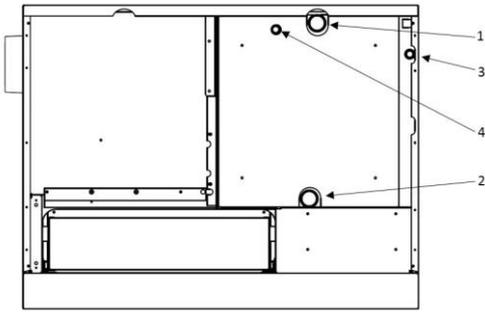
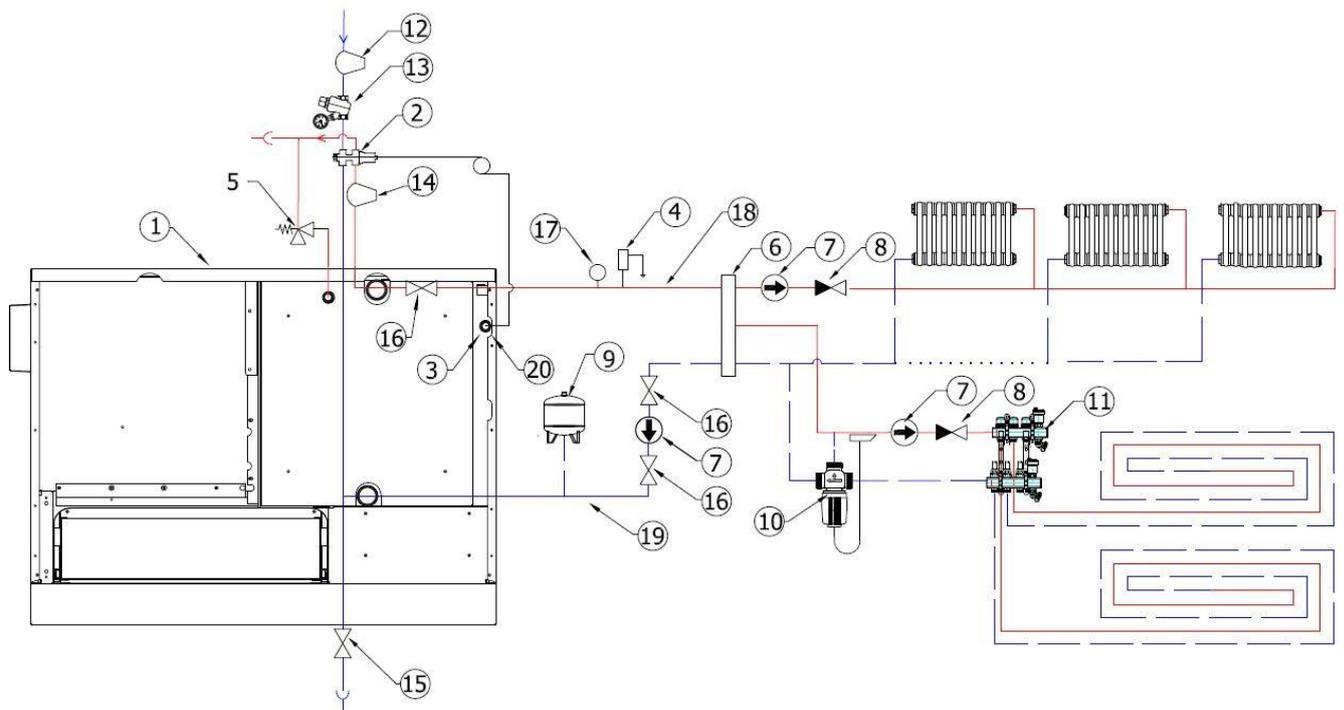
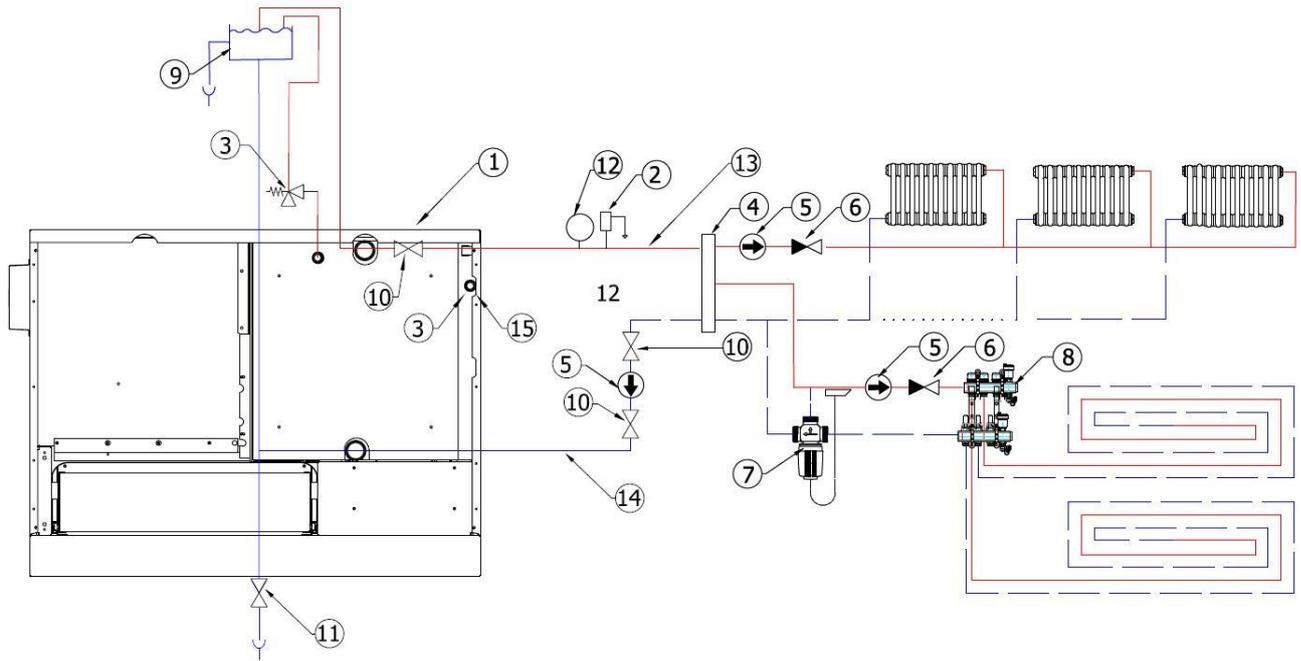

Figure 5
Figure 7
Figure 8
The stove can be installed in closed or open heating circuit. Conform to the standards: JUS M.E7.201 and JUS M.E7.202. Closed and open circuit diagrams are shown on Fig. 7 and Fig. 8.
The back of the boiler and connections are shown in Fig. 5 where:
6.1 FLOW PIPE AND RETURN PIPE (Fig. 5, pos. 1 and 2 and Fig. 7, pos. 18 and 19, Fig. 8, pos. 13 and 14)
1. Thermal release valve with built-in thermal protection type 544, 1/2", Caleffi product (Fig. 7a) and Fig. 7, pos. 2.
2. Slope pressure regulator 1/2" with manometer, the same or similar as shown in Fig. 7b and Fig. 7, pos. 13.
3. Filter for cold water at the input of the water supply to the thermal valve, Fig. 7, pos. 12.
4. Filter for hot water intake of the boiler and water outlet of thermal valve, Fig. 7, pos. 14.
Installation of thermal release valve with built-in thermal protection (Fig. 7, pos. 2 and Fig. 7a) with additional elements ensuring safe operation, such as pressure regulator (Fig. 7, pos. 13 and Fig. 7b), water filter on the boiler intake (Fig. 7, pos. 12) and water filter on the boiler outlet in closed central heating system is **MANDATORY**. This specially refers to a closed system, when the radiators are submerged and where in case of termination of the pump operation for any reason, the water temperature in the boiler rapidly increases and overheating occurs very quickly.
6.2 THERMAL RELEASE VALVE WITH INSTALLED THERMAL PROTECTION (Fig. 7, pos. 2 and Fig. 7a)
The thermal release valve probe (Fig. 7, pos. 3) is best placed in the thermal valve connection on the boiler itself (Fig. 7, pos. 20). It can be placed on the discharge - distribution pipe (Fig. 7, pos. 18), but at a distance from the boiler of 500 mm the most or at the highest point of the boiler before the exhaust pipes.
Figure 7 shows the connection diagram for the thermal release valve.
6.2.2 SLOPE PRESSURE REGULATOR 1/2" WITH MANOMETER (Fig. 7, pos. 13 and Fig. 7b)
When installing the thermal release valve, it is mandatory to install a slope pressure regulator as shown in the Figure 7, pos. 13. The pressure that is maintained by pressure regulator must be set at a higher pressure than the pressure that is in the heating system. If you do not have a higher water pressure of at least 0.8 bar compared to the pressure in the heating system, the thermal release valve will not work or cannot inject cold water into the boiler that needs to be cooled.
6.2.3 WATER FILTER OF THE BOILER INTAKE (Fig. 7, pos. 12)
6.2.4 WATER FILTER OF THE BOILER OUTLET (Fig. 7, pos. 14)
6.3 SAFETY VALVE (Fig. 7, pos. 5, Fig. 8, pos. 3 and Fig. 5, pos. 4)
An R1/2" connection (Fig. 5, pos. 4) is welded at the back of the boiler, under the cooktop frame, on which a safety valve **MUST** be fitted. The safety valve should be set at 2.5 to 3 bars. You can fit it directly on the connection or at a distance from the connection of at least 1 m, provided that there is no block valve between the boiler and the safety valve.